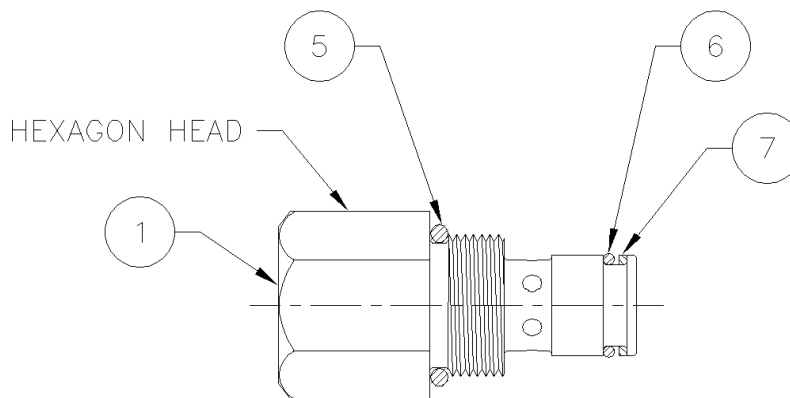

figure S-1
1. Install the housing seal (5) (figure S-1) in the groove next to the hexagon head of the plunger housing (1). Place the square backup ring (7) in the groove at the end of the plunger housing (1). Place the o-ring (6) in the same groove as the square backup ring (7) closest to the hexagon head of the plunger housing (1).